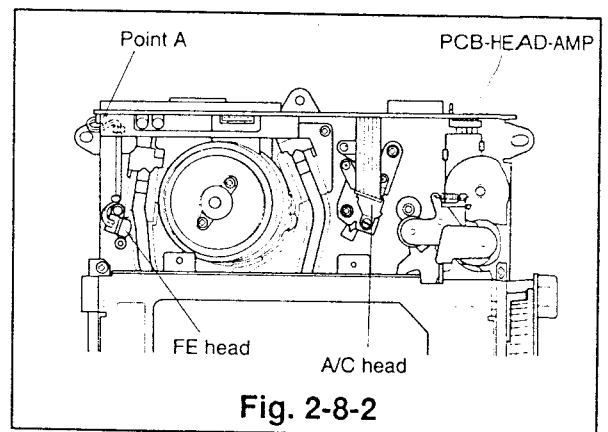

Fig. 2-8-2
- ④ Disconnect the lead connector(point A), connected to the FE head. (Refer to Fig. 2-8-2.)
- ④ Connect the lead connector, connected to the FE head, to the point A. (Refer to Fig. 2-8-2.)
- ⑤ Shift part B of the bare wire lead extended from the head amp slightly downward, lower the stopper, and connect it to the connector on the PCB-A/C-HEAD.